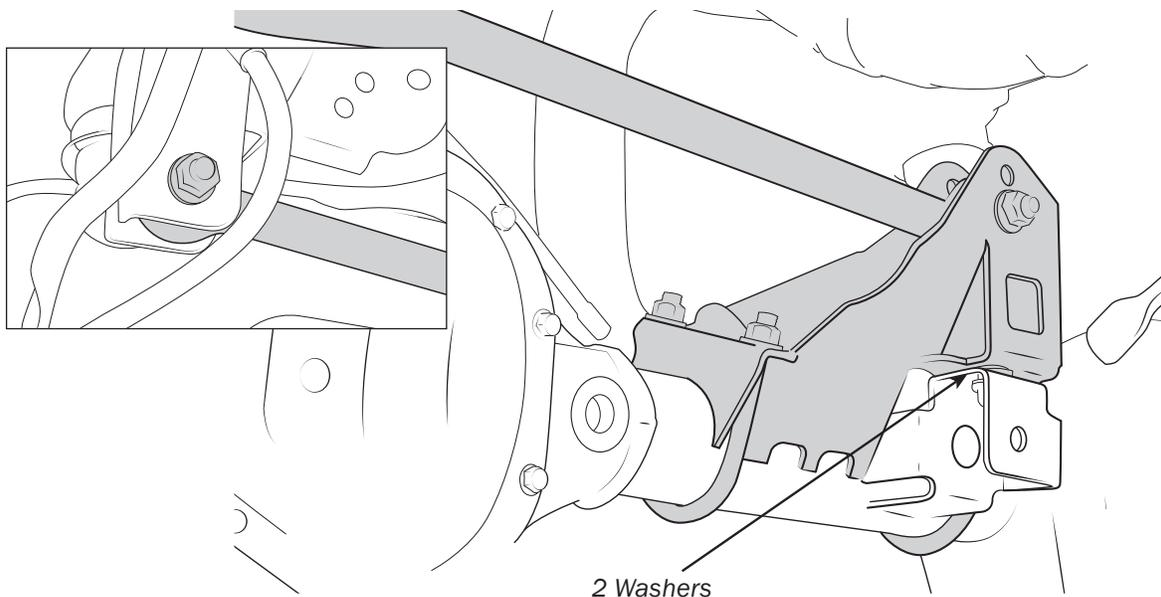

Figure 6
C. Install the track bar tower with the supplied hardware using 2 of the 1/2" washers as spacers as shown. (Fig. 6) DO NOT TORQUE THE U-BOLTS TO MORE THAN 40 ft-lbs.
12. Re-install rear track bar hand tight as shown. This will be tightened later at ride height. (Fig. 6).